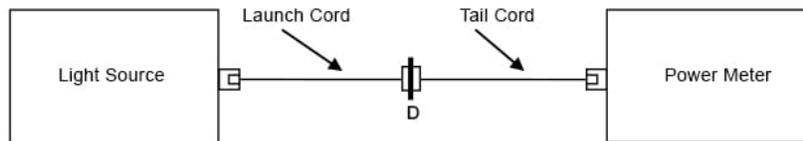

Figure 5. Set the reference
- a. Set a reference between the light source and power meter using the launch and tail cord (see Figure 5).